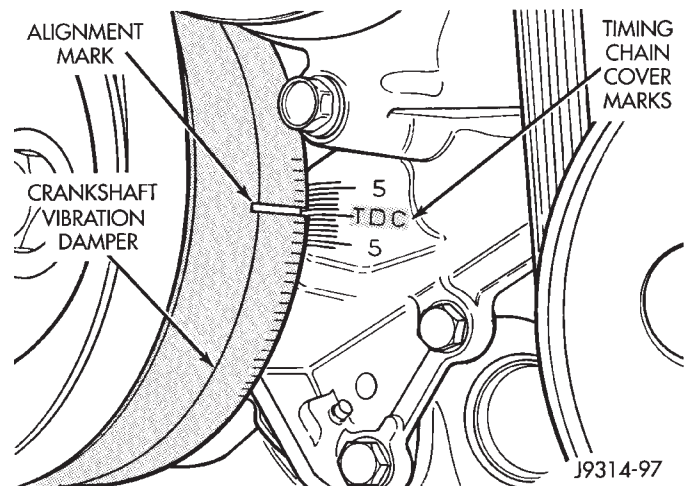

Fig. 20 Damper-To-Timing Chain Cover Alignment Marks—5.2L Engine
(5) Attach a socket to the Crankshaft Vibration Damper mounting bolt.
(6) Slowly rotate engine clockwise, as viewed from front, until indicating mark on crankshaft vibration damper is aligned to 0 degree (TDC) mark on timing chain cover (Fig. 20).
(7) The distributor rotor should now be aligned to the CYL. NO. 1 alignment mark (stamped) into the
is at top of compression stroke (compression should be felt on finger with number one spark removed). Then continue to slowly rotate engine clockwise until indicating mark (Fig. 20) is aligned to 0 degree (TDC) mark on timing chain cover.